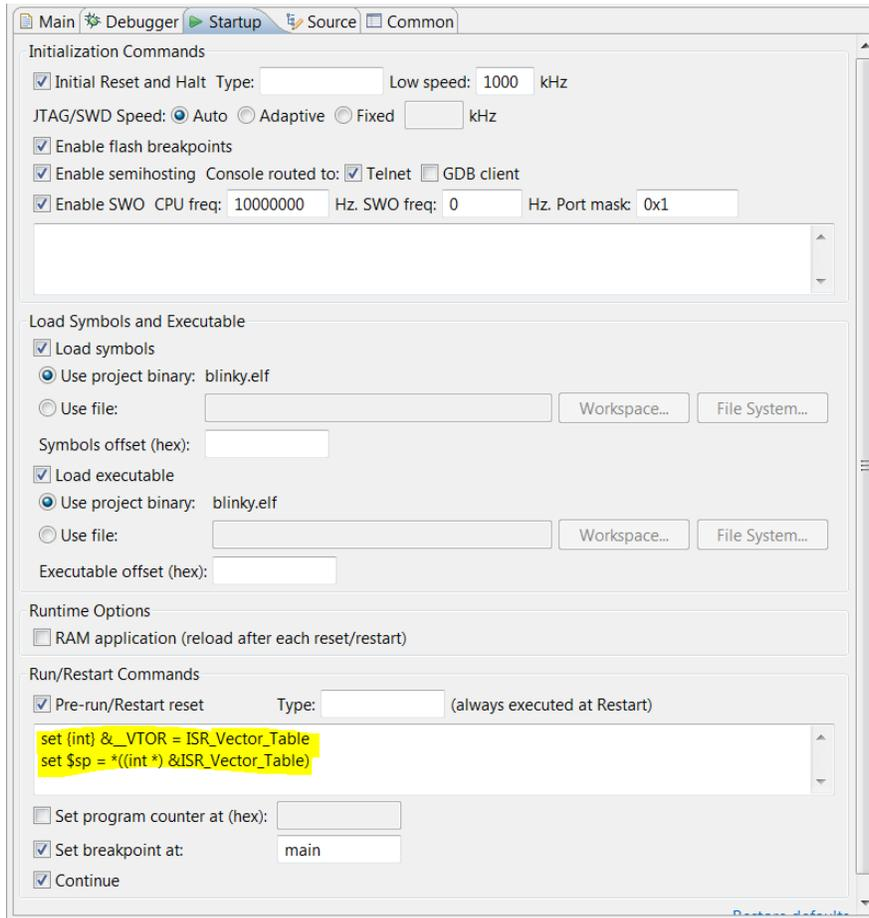

Figure 18. Setting Up a GDB Launch Configuration, Startup Tab
- b. Change to the **Startup** tab and enter the following in the **Run/Restart Commands** field as illustrated in Figure 18: